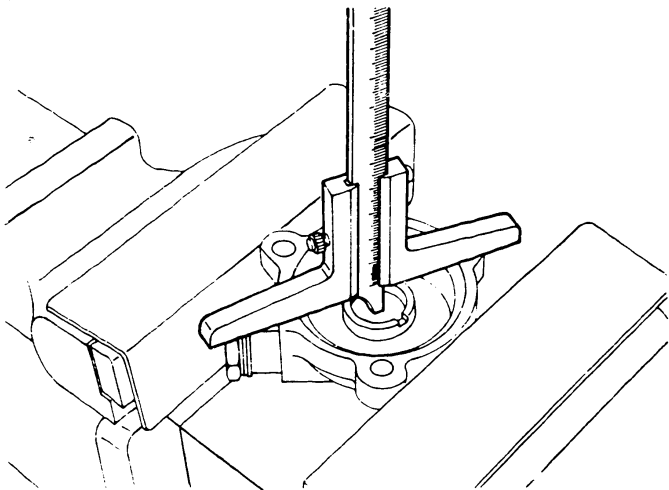

Fig. 98 Measuring the screw position
49. Before removing the screw (320/62), measure and record the distance between the edge of the cover (320/18) and the bottom of the screw. (These must be reassembled in their original positions.) (Fig. 98)